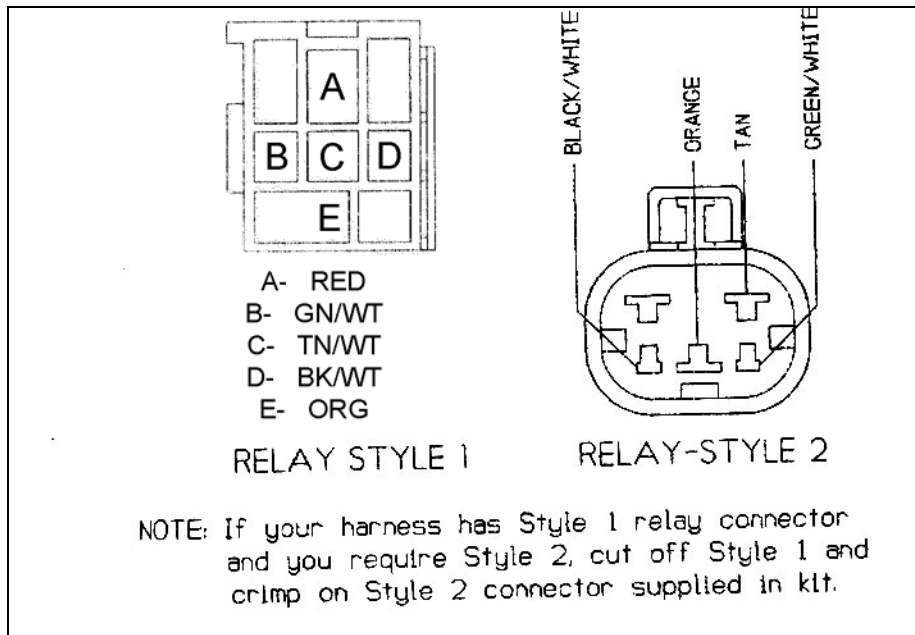

Figure 4.2 Fuel Pump Relay Connectors
4.2.2 If you are using a separate coil type distributor, then you will use the distributor adapter included in the kit. You will also need to obtain the distributor to coil and coil power/tach pigtails either from your local dealer, or the Painless part #'s listed above. The wiring for the separate coil system is shown in **Figure 4.2**.
- The fuel pump relay connector on the harness requires a style 1. A style 2 relay may be substituted. See **Figure 4.2** for illustration and **Table 4.1** for part numbers.